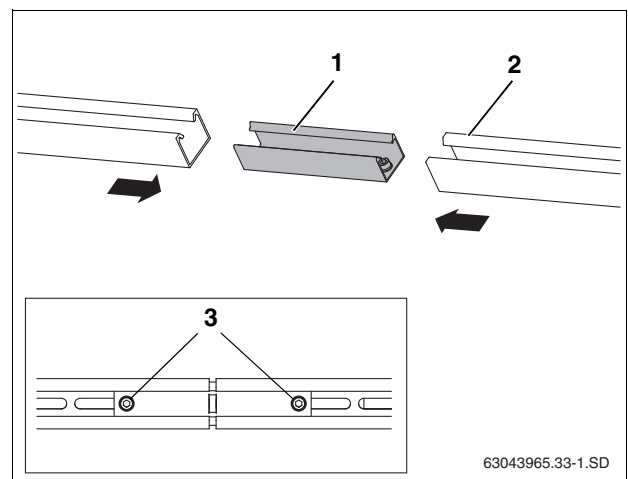

Fig. 31 Connecting profile rails
- ▶ Push connector (Fig. 31, [1]) as far as it will go into both profile rails (Fig. 31, [2]).
- ▶ To lock, tighten both installed M10 threaded studs (Fig. 31, [3]) in the connector using a size 5 Allen wrench: